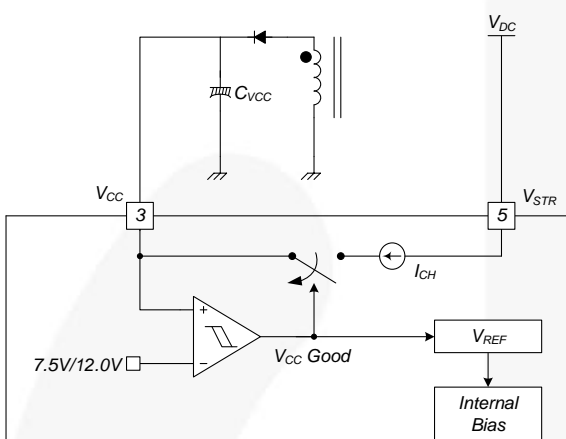

Figure 18. Startup Block
1. Startup: At startup, an internal high-voltage current source supplies the internal bias and charges the external capacitor (C_{VCC}) connected to the V_{CC} pin, as illustrated in Figure 18. When V_{CC} reaches 12 V, the FSL117MRIN begins switching and the internal high-voltage current source is disabled. Normal switching operation continues and the power is supplied from the auxiliary transformer winding unless V_{CC} goes below the stop voltage of 7.5 V.